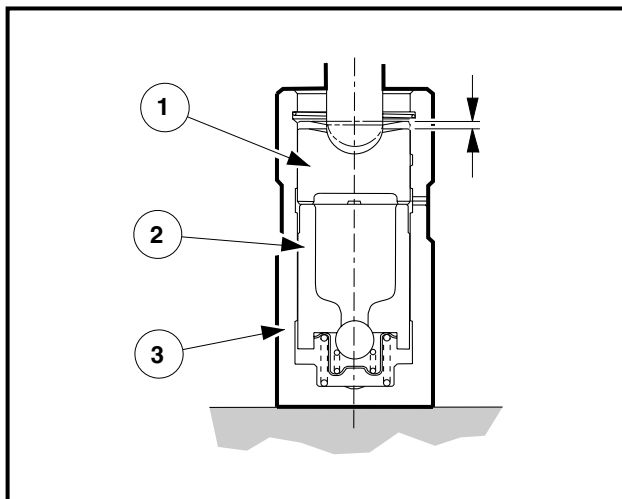

Figure 13-46 Inspect for Hydraulic Lifter Wear
- Do not depress the socket (1) (**Figure 13-46, Page 13-25**). This will cause the engine oil to leak out of the high pressure chamber during storage. Keep the hydraulic lifters upright to prevent the engine oil from spilling out of the lifters during storage.
If the engine typically remains noisy for two minutes after it starts, the hydraulic lifter might be worn between the plunger (2) and the body (3). Proceed with the following to check the hydraulic lifter for wear (**Figure 13-46, Page 13-25**).
2. Push the socket (1) down and measure the distance that it sinks (**Figure 13-46, Page 13-25**).